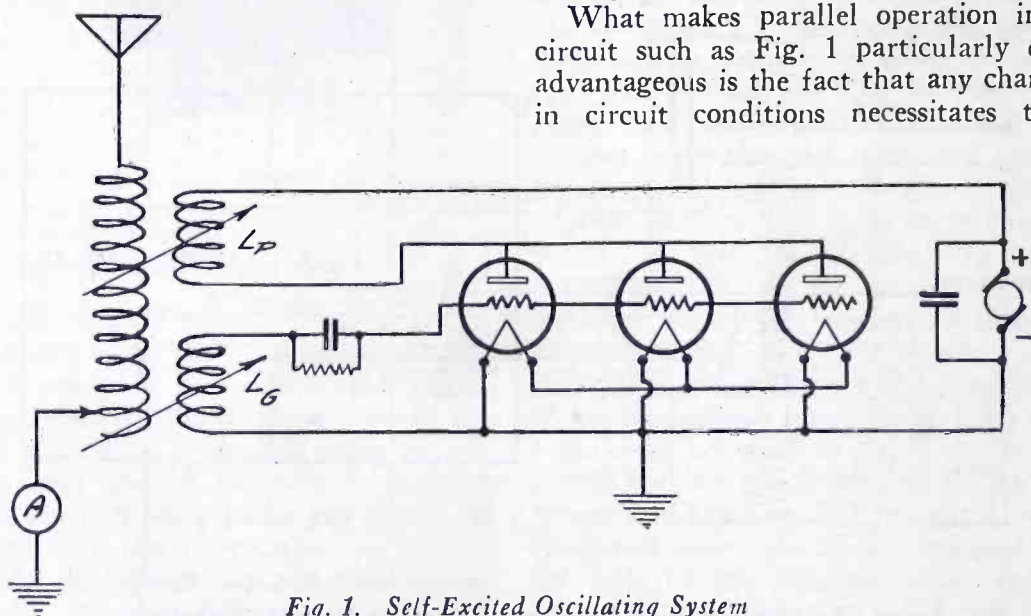

Fig. 1. Self-Excited Oscillating System
In working transmitting tubes in parallel there are two alternative methods of operation: (1) operating the tubes in parallel as self-excited oscillators and (2) operating the tubes in parallel as amplifiers, the grids of these amplifiers being excited by voltage derived from a master oscillator. These two methods are illustrated in Figs. 1 and 2 respectively. In the first instance, the tubes feed their output directly to the antenna. In the second case one master oscillator furnishes enough oscillatory energy to feed the grids of the bank of amplifier tubes which feed the amplified output into the antenna. These two methods are different in their operation and the advantage rests almost entirely with the master-oscillator-amplifier system. The reasons for this will become apparent in the course of the discussion.
for best and stable operation may be different for the different tubes. In fact the values of  $L_p$  and  $L_s$  which are necessary to make one tube oscillate may not make the other tubes oscillate, the result being very unstable operation at low efficiency and output, or no operation at all. With very non-uniform tubes it may be impossible to get the bank of tubes to oscillate at all. Uniformity of tube structure when tubes are used in parallel as in Fig. 1 is strictly essential for stable operation.
What makes parallel operation in a circuit such as Fig. 1 particularly disadvantageous is the fact that any change in circuit conditions necessitates two
important and sensitive readjustments. Suppose the circuit has been definitely adjusted for best output. If now there should occur a change, say in antenna capacity, which is not an unlikely occurrence in an airplane, due to swaying of the antenna and lead-in, it would be necessary to readjust both the feedback from antenna to grid and the antenna-plate coupling. If this were not done instability or even cessation of oscillations might ensue. This readjustment would be doubly difficult in the event the tubes were not uniform for the reasons given in the previous paragraph. A further disadvantage in this system of directly exciting the antenna from a bank of self-excited oscillator tubes is that the frequency of the radiated waves is subject to variations. Since in the circuit of Fig. 1 the transmitted frequency is determined entirely by the antenna constants and is not controlled by the tube circuits, any change in antenna constants, such as capacity, will result in a corresponding change in the frequency of oscillations. It is at once evident that this would be a great disadvantage in beat reception of C. W. signals.
In general, tubes as manufactured today are sufficiently uniform to permit of parallel operation. Assuming this uniformity, it will be found that as the number of tubes worked in parallel increases adjustments have to be changed to accommodate this increase. When one tube is connected to a circuit as in Fig. 1, or any other oscillating circuit, there are certain definite adjustments which will give maximum output at any particular wavelength. These adjustments are dependent upon the internal plate resistance of the valve and the load resistance, and are such as to make the plate circuit resistance equal to the antenna resistance when both are transferred into the same circuit. Mathematical analysis shows that for the best adjustment the plate inductance or plate tap is directly proportional to the internal plate resistance of the tube. When two or more like tubes are operated in parallel their internal plate resistances are in parallel, hence the total
One of the chief advantages of the master-oscillator-amplifier system over the self-excited system arises in the case of telephony. In the case of the circuit of Fig. 1, if telephony were desired, modulation could be efficiently accomplished in only one way, namely by the use of the Heising system of plate injection, as in Fig. 3. Now it is a well known fact that in this system it is necessary to use as modulator the same power tube as in the oscillator. Consequently the self-excited system of Fig. 1 would require an equal number of